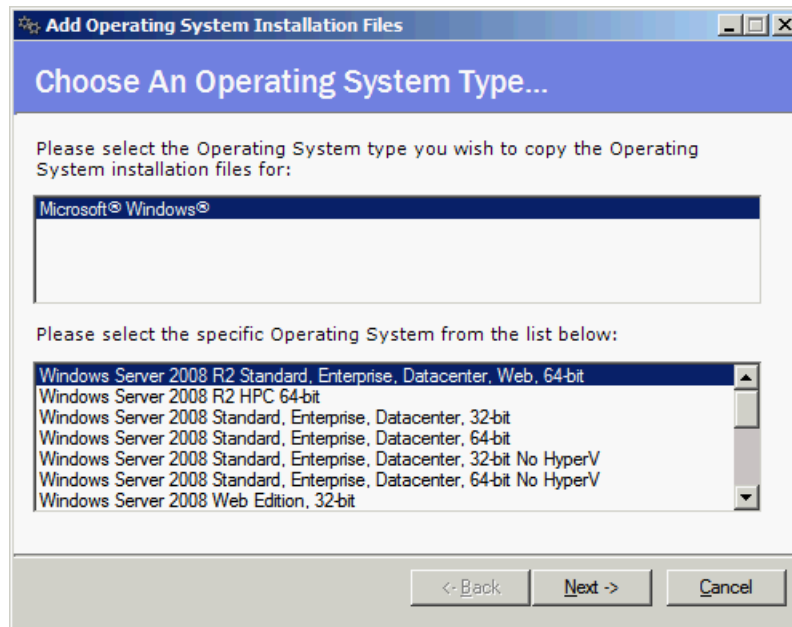

Figure 6-43 Select the type of operating system
3. Choose the OS type that you want and click **Next**, as shown in Figure 6-43.